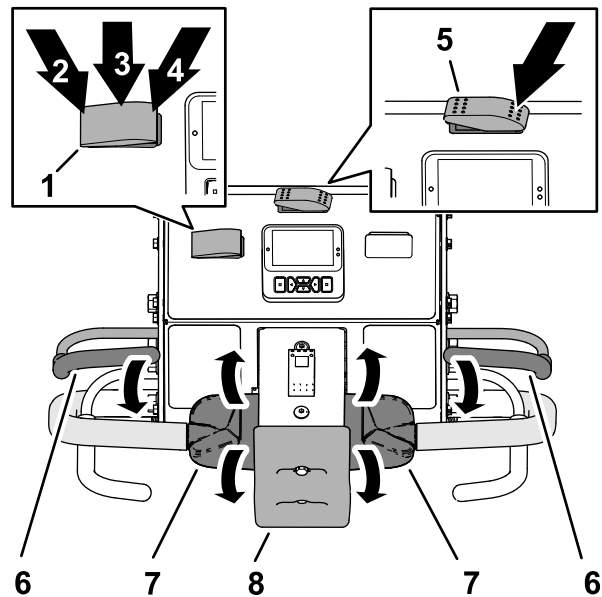

Figure 74
- Press the transport/aerate switch to the TRANSPORT position (Figure 74).